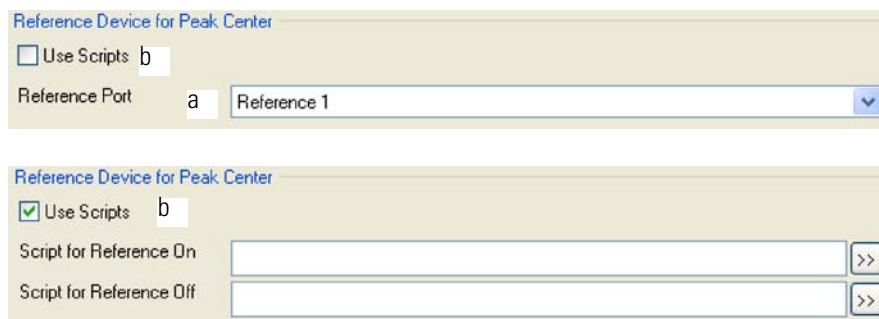

Figure 3-30. Instrument tab - Reference Device
- Dual Inlet bellow as reference injection (lecture bottles, bellow as reference storage). See Figure 3-30 and Table 3-5.
At Dual Inlet peak center, the scripts for reference must be activated (automatic reference open split; reference gas automatic. Mark the Use Scripts checkbox in the lower part of Figure 3-30, with script for Reference On and script for Reference Off). For referencing, Switch On and Switch Off will appear in the time events list.